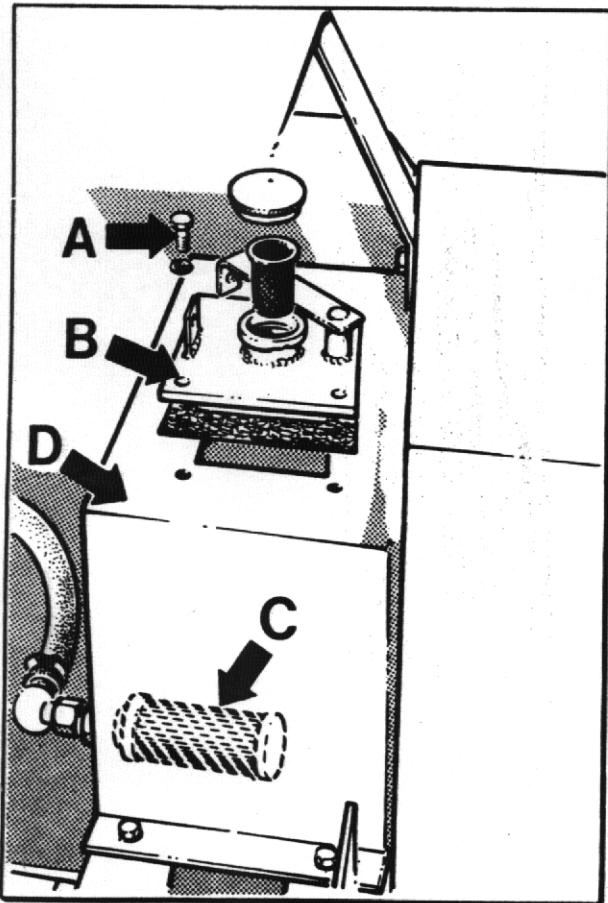

FIG.6
2. Check that hydraulic filter is not blocked (See Fig. 6).
- a) Remove the four setscrews (A) that secure the filler cap assembly (B) and remove assembly.
- b) Unscrew suction filter (C) from inside tank (D) and wash in white spirit. Dry with moisture-free compressed air.